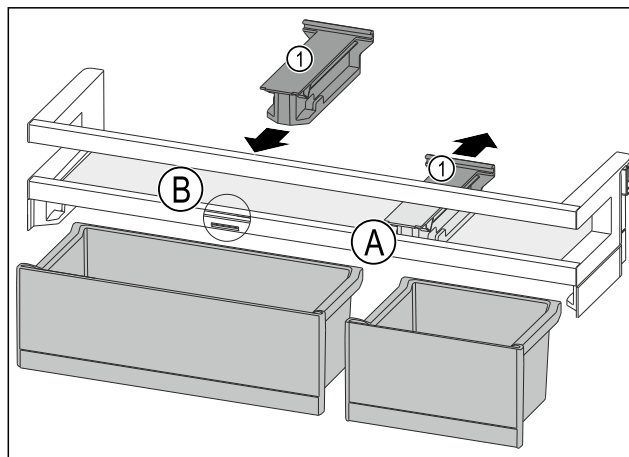

Fig. 190
- ▶ Take off the holding part Fig. 190 (1) in position Fig. 190 (A) backwards.
- ▶ Insert the holding part Fig. 190 (1) in position Fig. 190 (B).